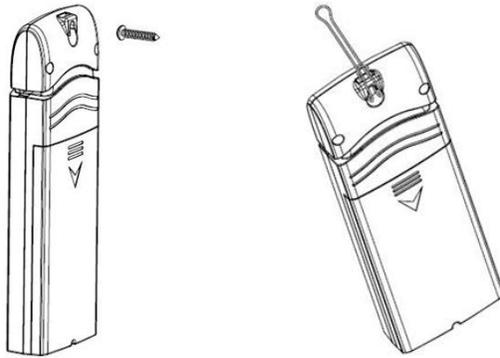

Figure 20: Indoor sensor mounting
- Use a screw or nail to affix the remote sensor to the wall, as shown on the left side of Figure 20,
- Hang the remote sensor using a string, as shown in right side of Figure 20.